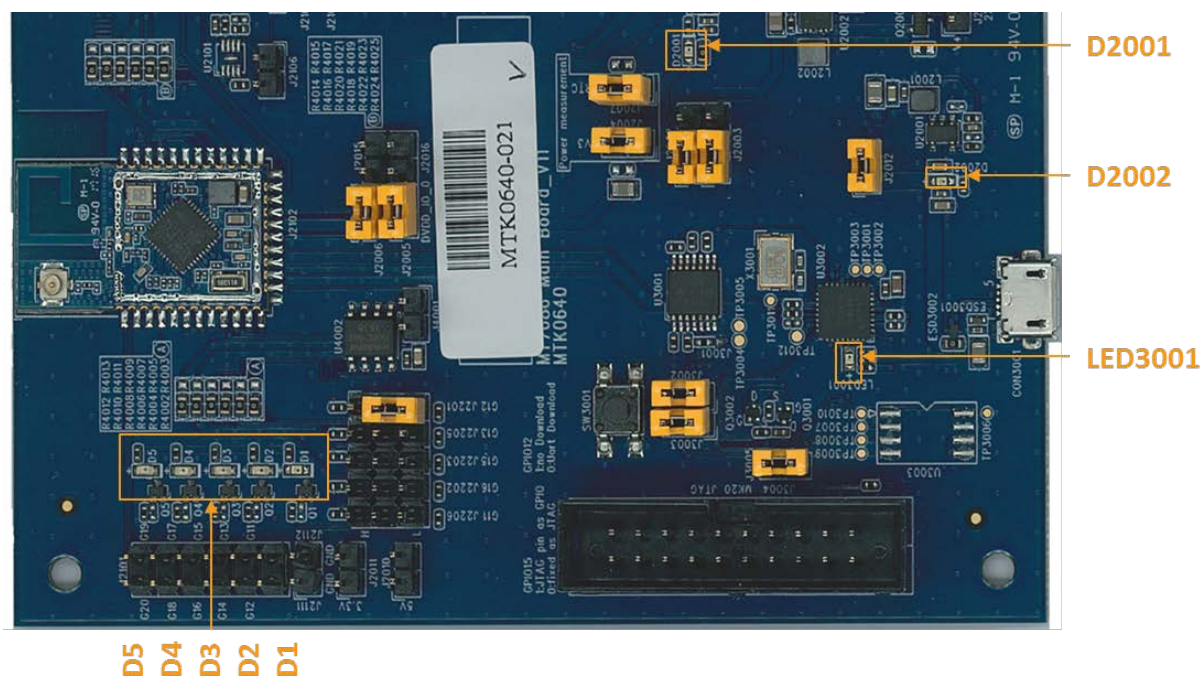

Figure 6. On-board LEDs
The MT7682 HDK has onboard LEDs associated with different functionalities of the board (Figure 6).
- 4) **D1**, **D2**, **D3**, **D4**, and **D5** are LEDs assigned for user interaction. All LEDs are high active (Figure 6).